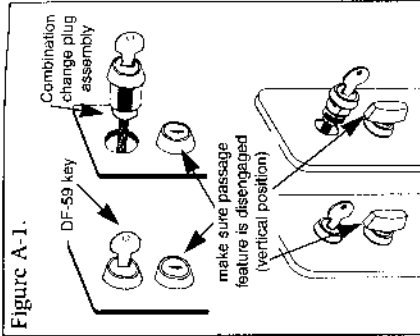

Figure A-1.
- 1• Insert the DF-59 control key into the combination change plug assembly and unscrew the cylinder by turning the key counterclockwise. Remove the combination change plug to gain access to the combination change sleeve (see Figure A-1).